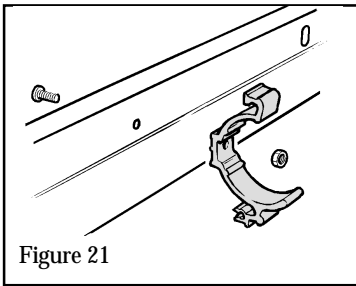

Figure 21
8.6 Fit two plastic duct support brackets to each backing plate through the round holes with the machine screws and nuts supplied. The screw heads must be on the outside (back) face of the backing plates (see figure 21).